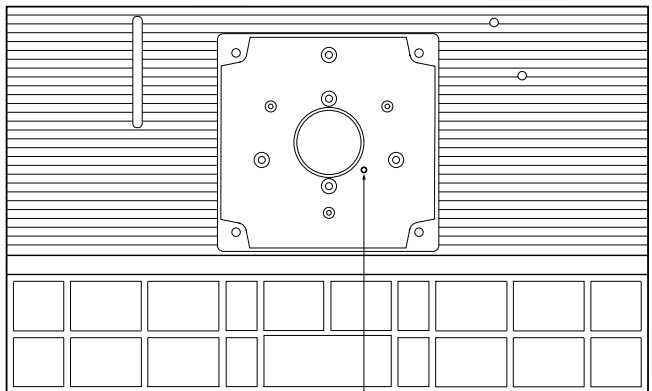

Fig. G.2
3. Place the **Insert Plate** into the large opening in the table. The position of the plate should be with the **Threaded Hole** to the front right of the **Table Surface**, see fig. G.2.